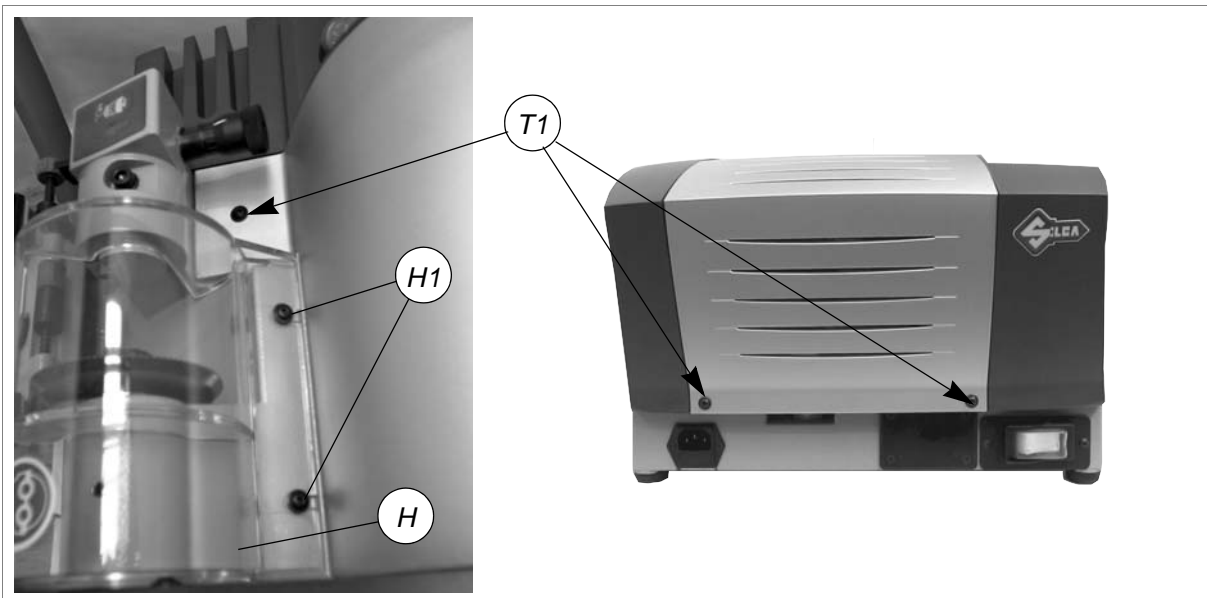

Fig. 30
- 2) Loosen the 2 screws (H1) on the cutter cover (H) and remove (fig.30).
- 2) Loosen the 2 screws (H1) on the cutter cover (H) and remove (fig. 30, page 24).
- 3) Loosen the 3 screws (T1) on the central cover (fig.30), raise slightly and remove, tipping a little.
- 7) Replace the central cover and fix with the 3 screws (T1) (fig. 30, page 24).
- 5) Loosen the 2 screws (H1) on the cutter cover (H) and remove (fig. 30, page 24).
- 6) Loosen the 3 screws (T1) on the central cover, raise slightly and remove, tipping a little (fig. 30, page 24).
- 17) Replace the central cover and fix with the 3 screws (T1) (fig. 30, page 24).
- 18) Replace the cutter cover and fix with the 2 screws (H1) (fig.30).